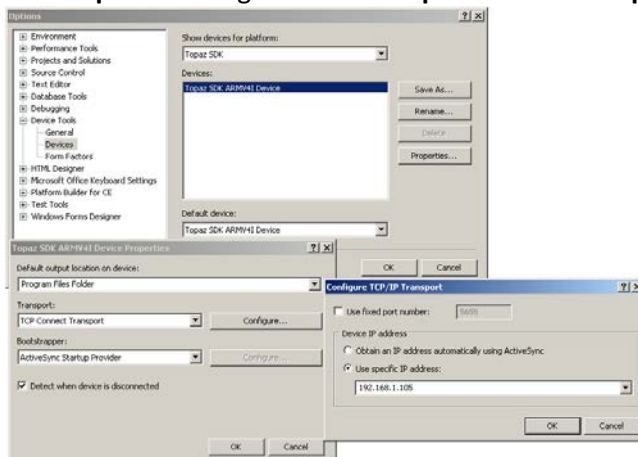

Figure 18: Configuring Connectivity Options
- 4) In the **Options** dialog select the **Properties** for the **Topaz SDK ARMV4I Device** (see Figure 18)